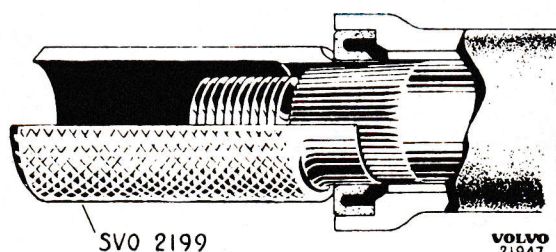

Fig. 30. Fitting the pitman arm shaft.
6. Apply the protecting sleeve SVO 2199 as shown in Fig. 30 and fit the pitman arm shaft in the steering box housing. Apply a few drops of oil to the adjusting screw in the pitman arm shaft.